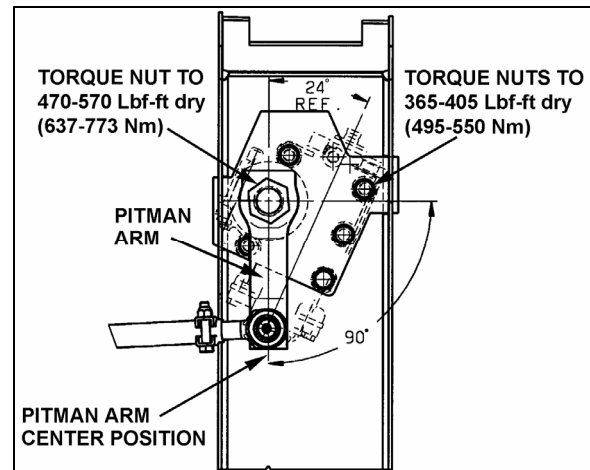

FIGURE 16: PITMAN ARM ADJUSTMENT
2. Using a protractor, check the angle of the pitman arm (refer to Fig. 16 for details).